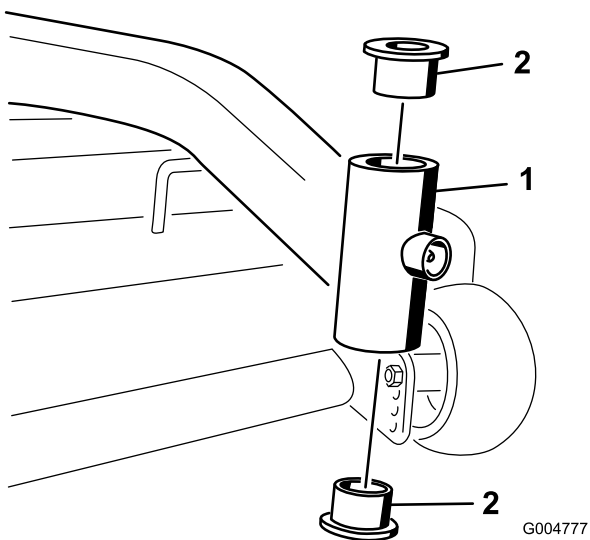

Figure 42
4. Insert a pin punch into the mounting tube and carefully drive out the bushings (Figure 42). Clean the inside of the mounting tube.